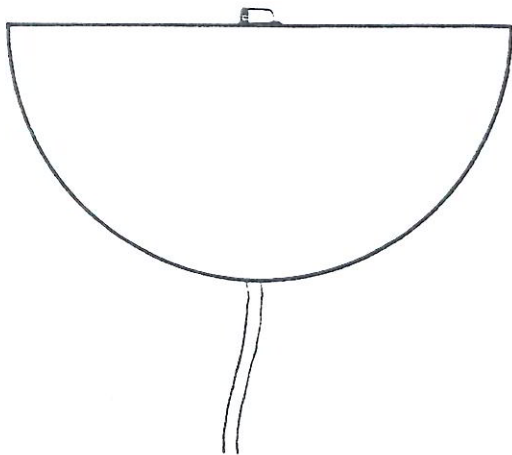
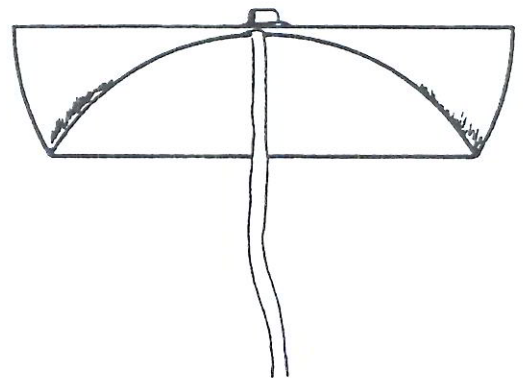

FIG. 13
FIG. 14
- 16) Lay the pilot chute out flat with the mesh side up, and fold the pilot chute in half over the bridle (FIG. 13). Now fold the curved side up to a point just under the handle (FIG. 14).